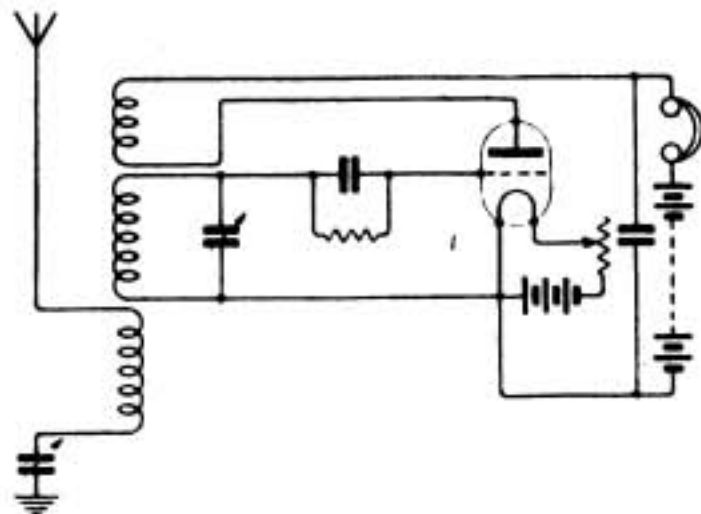

Fig. 1.
(1) See diagram (Fig. 1). (2) It depends on the power and wavelength of the transmitting station, and also how badly the receiver is shielded by the walls of the house. It is impossible to give any useful figures. (3) 120 ohms is the total resistance of the pair.